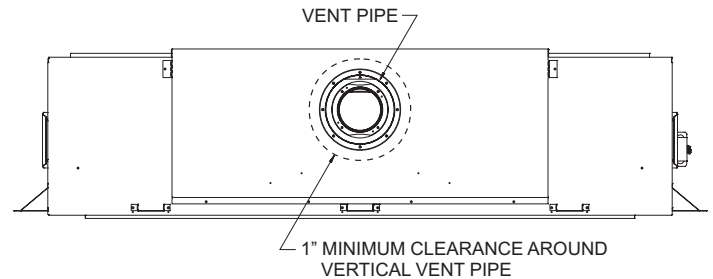

Figure 27
**NOTICE:** Maintain one inch of clearance around vertical vent pipe. See Figure 27.